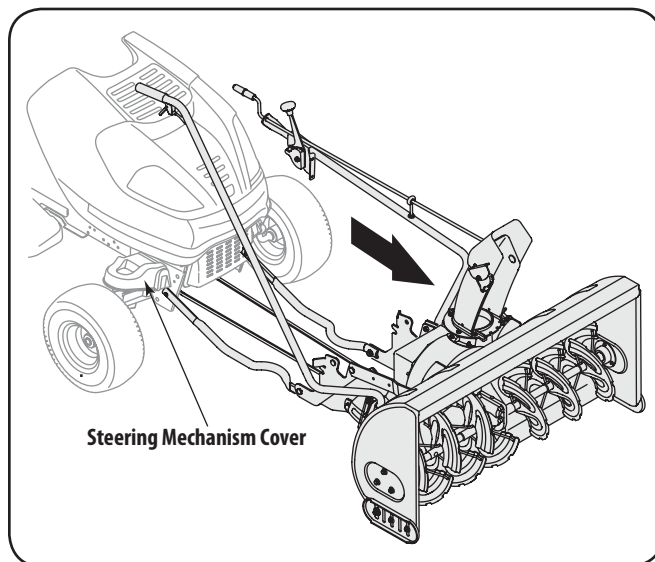

Figure 3-8
1. Remove the steering mechanism cover by removing the three screws which secure it. See Fig. 3-8. Retain the hardware for later use during this installation.
2. Position the auger housing assembly in front of the tractor as seen in Fig. 3-8. Lay the belt and support tubes on the installation surface.